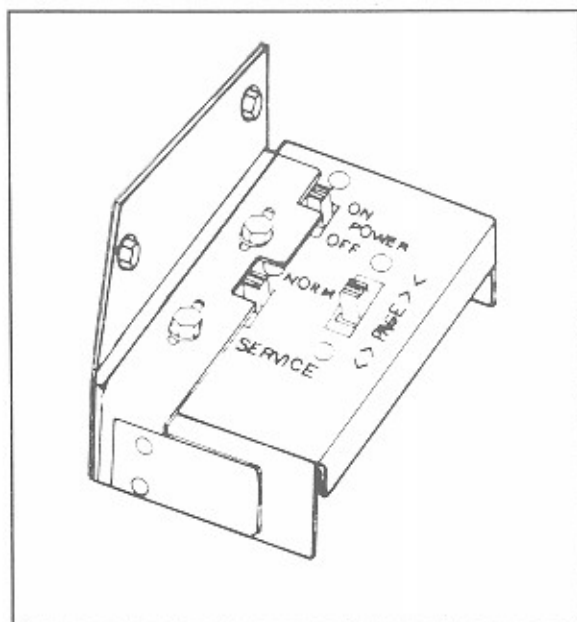

Figure 3-2. Service Switch
1. Open the top door and place the SERVICE switch (*figure 3-2*) in the SERVICE position. The phonograph display will say * SERVICE MODE *.
2. Move the SERVICE switch to the SERVICE position, if not already done (*refer to figure 3-2*).
2. Move the SERVICE switch to the SERVICE position, if not already done (refer to figure 3-2).